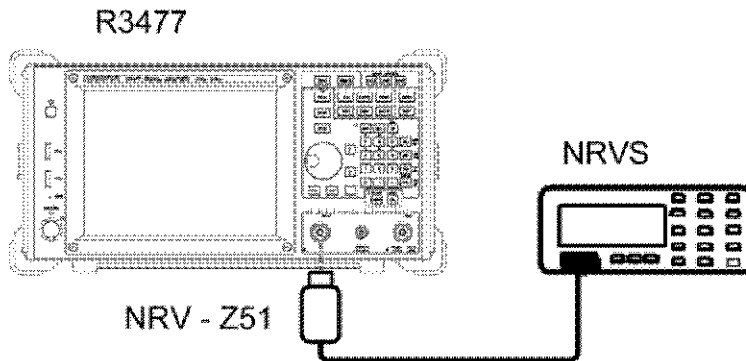

Figure 2-20 TG Output Level Flatness Test
3. Connect the instruments as shown in Figure 2-20.